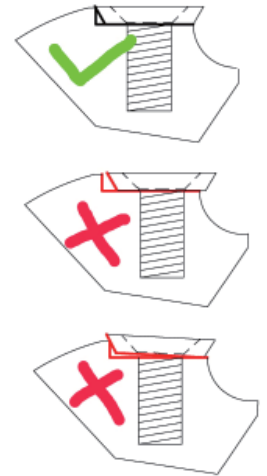

Fig. 4- insert installation
7. Visually inspect and make sure that the insert is in place and there is no void between the insert and the tool body as Fig 4 shows.